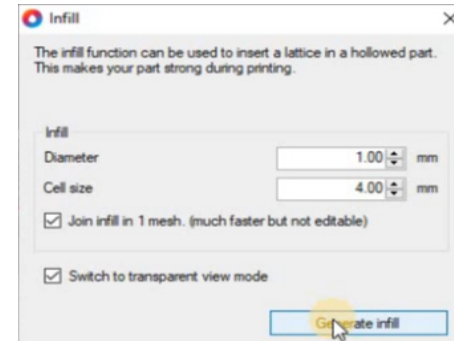

Figure 23
- To increase the rigidity of your hollow models you should add an infill by clicking the 'Infill' button. We recommend a 1mm 'Infill diameter' and 4mm 'Cell Size'. Select transparent view mode to see the lattice and then press 'Generate Infill' (figure 23).